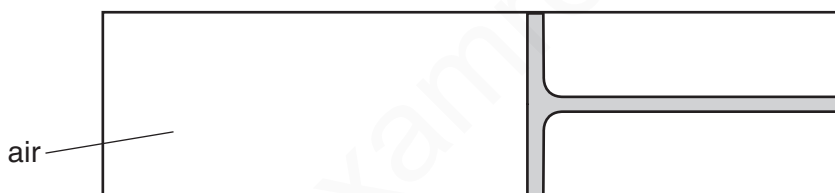

Fig. 4.2
- (b) Fig. 4.2 shows the same cylinder containing air.